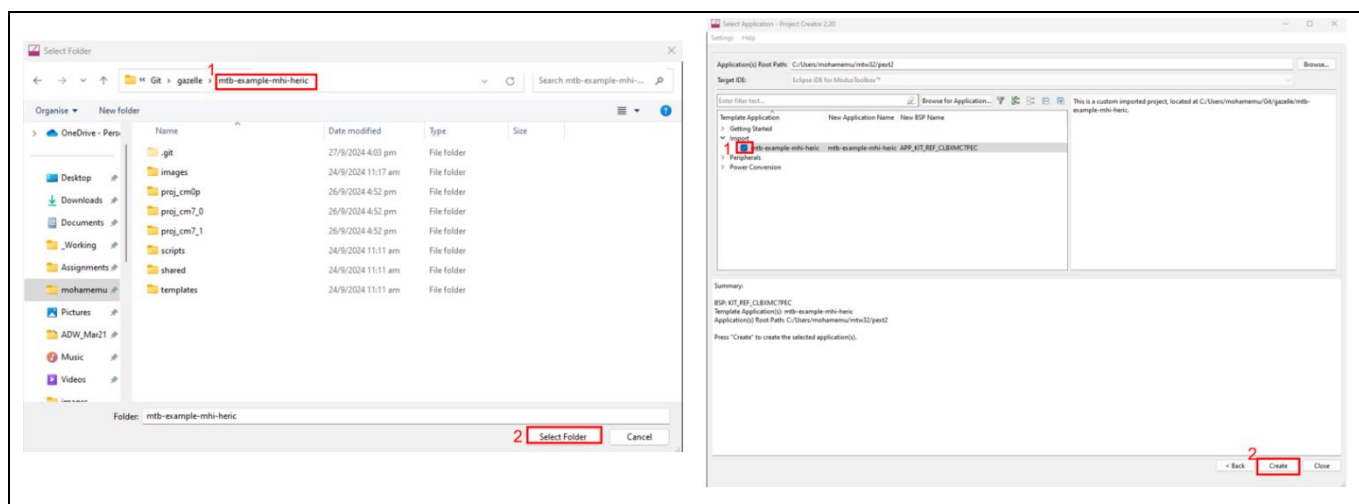

Figure 33 Create a new project
4. Navigate to where you previously cloned the repository (firmware), select the folder and repository, and click **Create** (Figure 33)